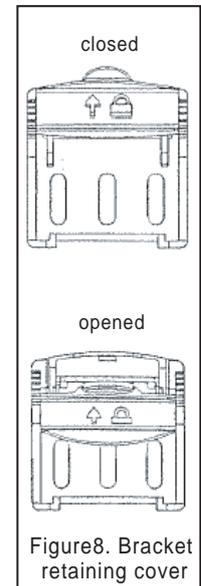

Figure8. Bracket retaining cover
1. If the retaining cover is closed, open it by depressing the latch and rotating the cover downward (see Figure8).